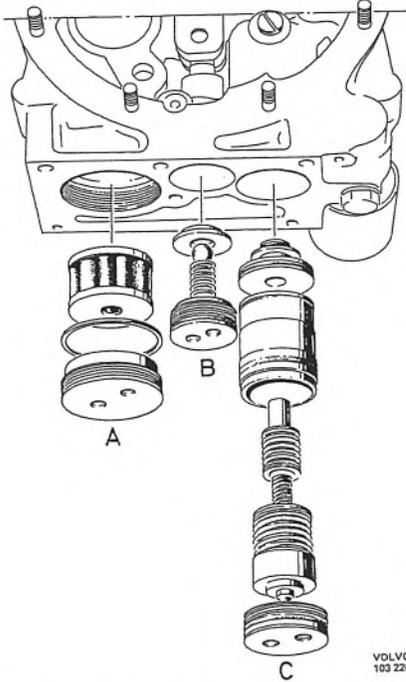

Fig. 4-49. Installing fine filter, oil pump check valve and relief valve
1. Fit the fine filter. Also fit the relief valve parts in the following order: End washer, cylinder, small piston, low-pressure spring, large piston and plug, see Fig. 4-49.